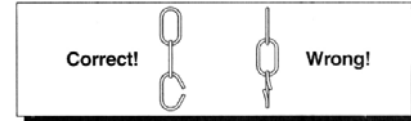

Figure 2
6. Locate the FIXTURE CHAIN and determine desired hanging height of fixture. Adjust chain by removing links if needed. Please note that depending on chain material thickness, you might be required to use chain pliers to spread links open (See Figure 2). Attach one end of chain to FIXTURE LOOP, attached to top of fixture. Unravel FIXTURE WIRES and GROUND WIRES and pass through FIXTURE CHAIN alternating links. Pass the fixture wires through the following mounting components: CANOPY LOCK RING, CEILING CANOPY, CANOPY CHAIN LOOP and VIBRATION PROOF WASHER B.
7. **MAKE CONNECTIONS:** (We recommend 2 people for the remainder of installation) Position the FIXTURE under the JUNCTION BOX and pass the FIXTURE WIRE(S) and GROUND WIRE through the center of the NIPPLE. Connect the SUPPLY GROUND WIRE to the FIXTURE GROUND WIRE. Secure both to the CROSSBAR with GREEN GROUND SCREW. Using wire Connectors, connect the SUPPLY WHITE WIRE(S) to the FIXTURE WHITE (or RIBBED) LEAD(S); Connect the SUPPLY BLACK (or RED) WIRE to the FIXTURE BLACK (or SMOOTH) LEAD(S). Wrap all connections with approved electrical tape.